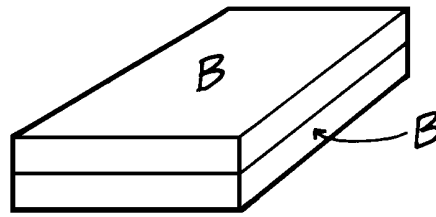

Figure 1
1. Cut two long inner frames (A) from 1 x 4 pine; each should be 70" long.
2. Cut 16 short inner frames (B) from 1 x 4 pine; each should be 7-1/4" long.
3. Glue two short inner frames (B) together to form a double thickness, as shown in *Figure 1*, and secure them by inserting four 1-1/4" screws, one near each corner.